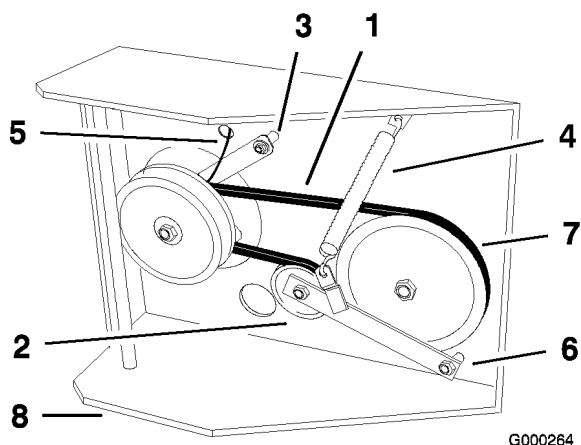

Figure 51
6. Disconnect clutch retainer from the engine deck (Figure 51).
7. Unhook tension spring from side of frame (Figure 51).
10. Torque pivot bolt to 35-40 ft-lb (47-54 N·m). Install tension spring between idler arm and frame bracket (Figure 51).
11. Install clutch retainer to the engine deck (Figure 51).